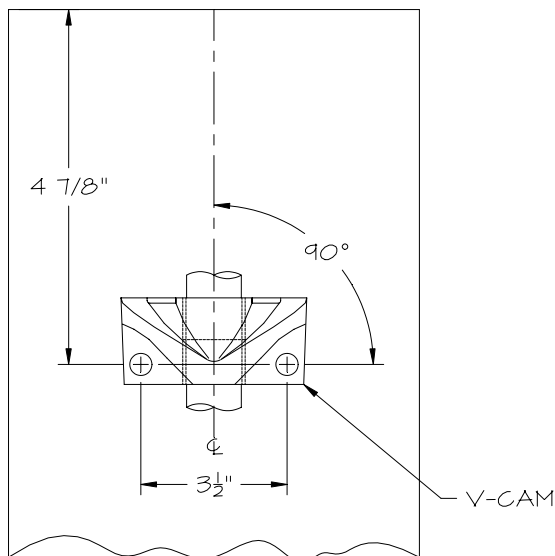

FIG. 13
- * **Measure and mark 4-7/8"** from top of jamb along plumb line (Figure 13).